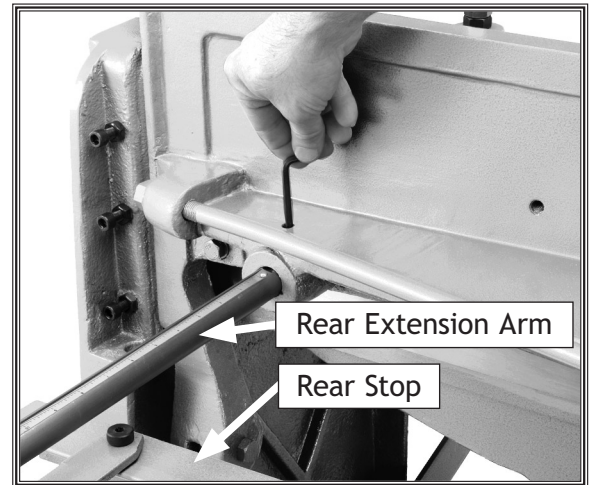

Figure 7. Installing rear extension arms.
To install the rear extension arms as shown in Figure 7 do these steps:
4. When complete, the finished assembly should look like Figure 7.